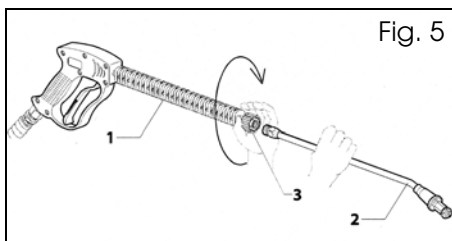

Fig. 5
1. Take hold of the gun (1) in one hand and fit the lance (2) on to the gun as shown in Fig. 5.
2. Tighten the collar (3) to secure. See Fig. 5.